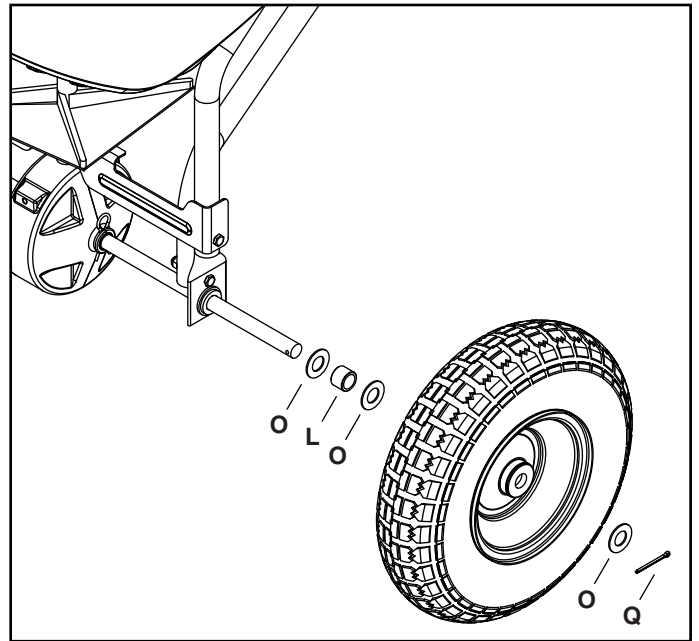

FIGURE 15
STEP 16: (SEE FIGURE 15)
- Slide a 5/8" washer (O), a spacer (L), a 5/8" washer (O) a wheel, and a 5/8" washer onto the end of the axle.
- Secure the wheel to the axle with a cotter pin (Q), spreading both ends of the cotter pin.